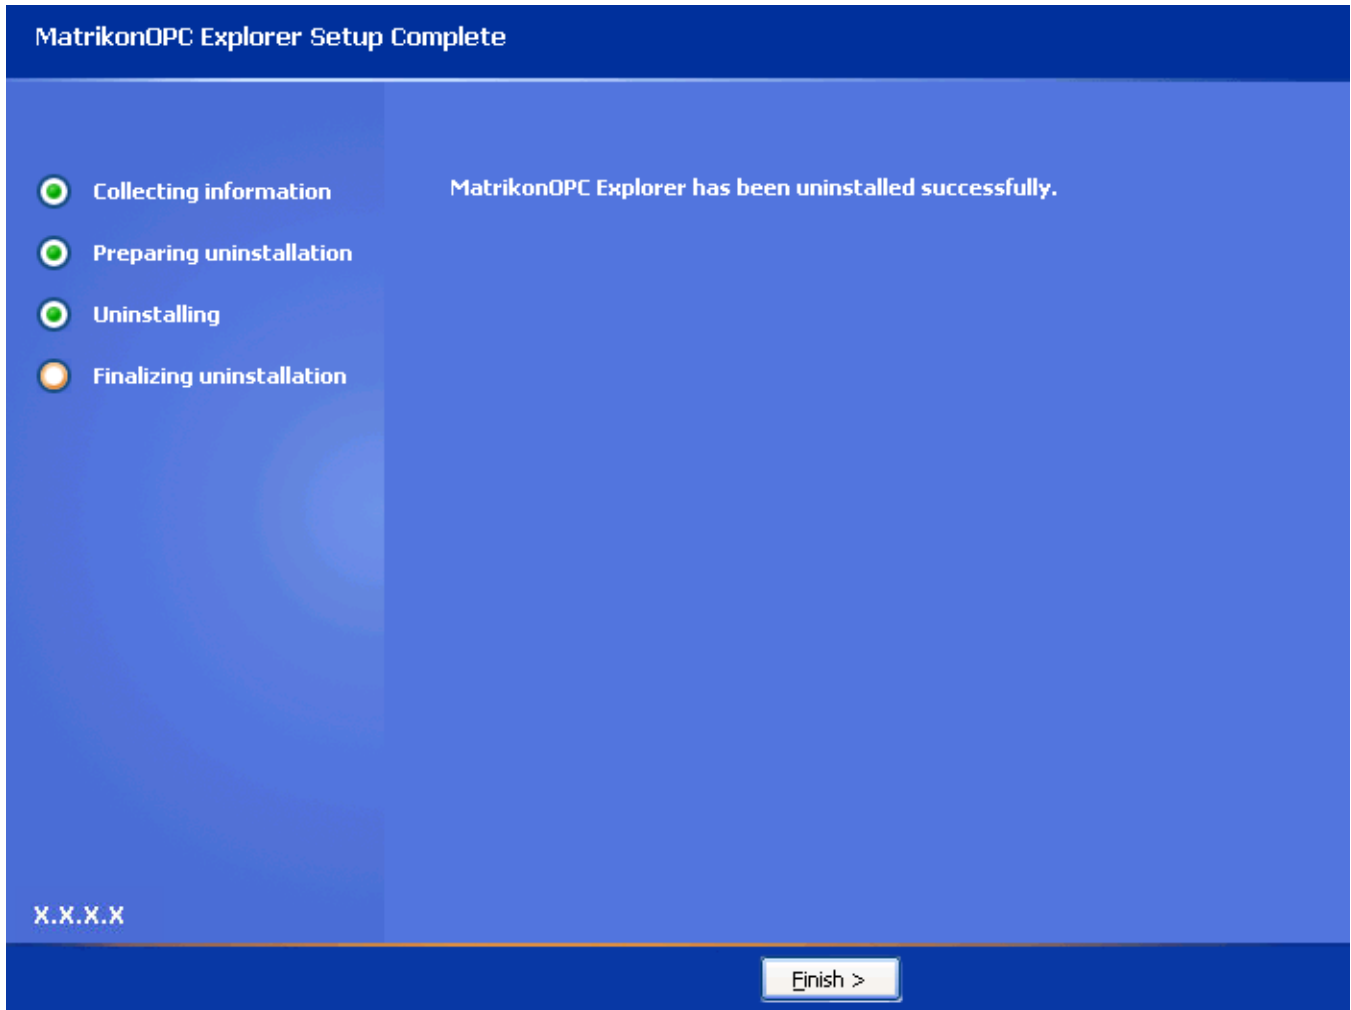

Figure 40 - MatrikonOPC Explorer Setup Complete Screen
11. When the un-install has finished, the **Matrikon Explorer Setup Complete** screen (Figure 40) appears stating that MatrikonOPC Explorer was successfully un-installed.